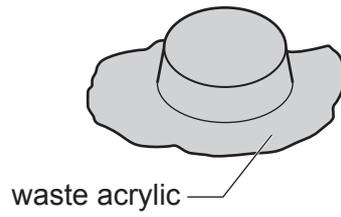

Fig. 13.10
- (ii) Fig. 13.10 shows one paint pot after it has been vacuum formed and cut out roughly from the acrylic sheet.